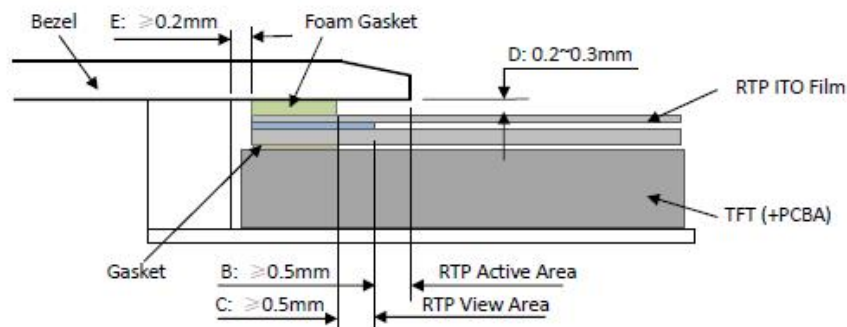

Figure 4
- It should bezel touching the RTP Active Area (A.A.) to prevent abnormal touch. It should left gap $D=0.2\sim 0.3\text{mm}$ in between. (Figure 4)
- 为避免面框直接压在动作区 (A. A.) 上造成误动作，面框与电阻触摸屏 (RTP) 之间应留有一定的空隙 $D=0.2\sim 0.3\text{mm}$ 之间。(附图 4)
It is suggested to protect those areas with gasket (between the bezel and RTP). The suggested figures are $B \geq 0.50\text{mm}$; $C \geq 0.50\text{mm}$. (Figure 4)
- The bezel side wall should keep space $E = 0.2 \sim 0.3\text{mm}$ from the RTP. (Figure 4)
动作区的边缘，面框边缘到 V. A. 区的距离 $B \geq 0.50\text{mm}$ ；垫圈内边缘到 V. A. 区的距离 $C \geq 0.50\text{mm}$ 。（附图 4）
- 在设计面框与 RTP 组装时，应考虑到面框内侧与 RTP 外侧的间距 $E \geq 0.2\text{mm}$ 。（附图 4）